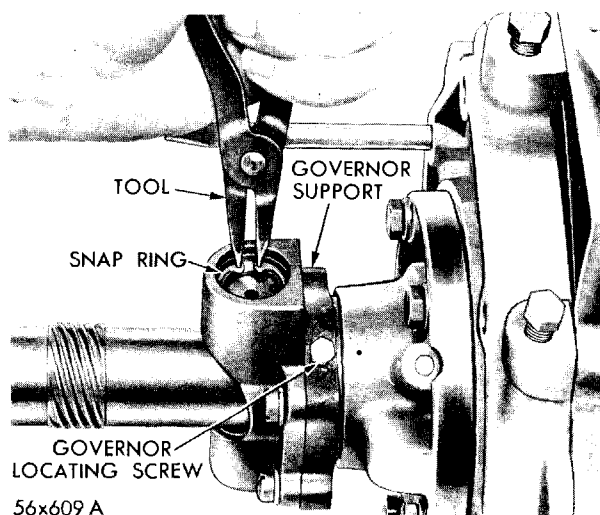

Fig. 38—Removal and Installation of Governor Weight Assembly
(3) Using pliers, Tool C-3229, remove governor snap ring (large), as shown in Figure 38, and remove governor weight assembly.
(4) Remove governor locating screw from the governor support.
(5) Remove oil pump housing, gear, pinion and governor assembly from output shaft. **Use dye and mark face of pump gear in relation to pump housing, for reassembly purposes. DO NOT SCRIBE.** Remove oil pump pinion ball.